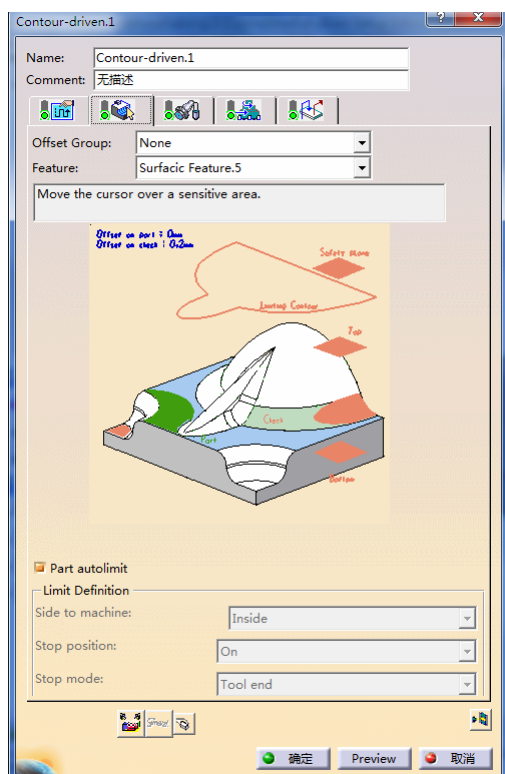

图 3-46 “Contour-driven.1”对话框 (1)
在特征树中选择“Advanced Finishing.1”节点，选择下拉菜单“插入”→“Machining Operations”→“Contour-driven”命令，或者单击“Machining Operations”工具栏上的 Contour-driven 按钮，弹出“Contour-driven.1”对话框 (1)，如图 3-46 所示。